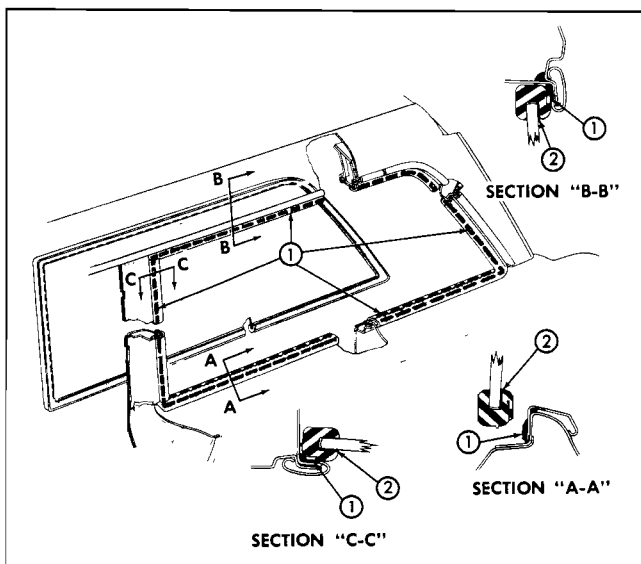

Fig. 10A-49 Rear Quarter Window Sealing—Station Wagon
3. To install rear quarter window, first clean off all old sealer from medium-bodied sealer on wall of window opening rabbet completely around window opening to effect a seal between body and rubber channel (see 1 in Fig. 10A-48).
4. Position glass and rubber channel assembly into window opening and install retainers loosely. Using a pressure type applicator, apply weatherstrip adhesive (black) between rubber channel and outside surface of glass (see 2 in Fig. 10A-41).